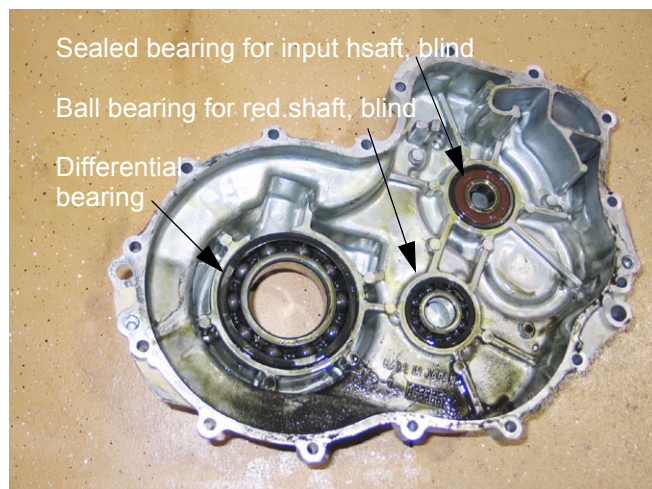

Figure 9.31
9.31. Clean the left half of the housing, and inspect the three bearings that reside in it. See Figure 9.31.